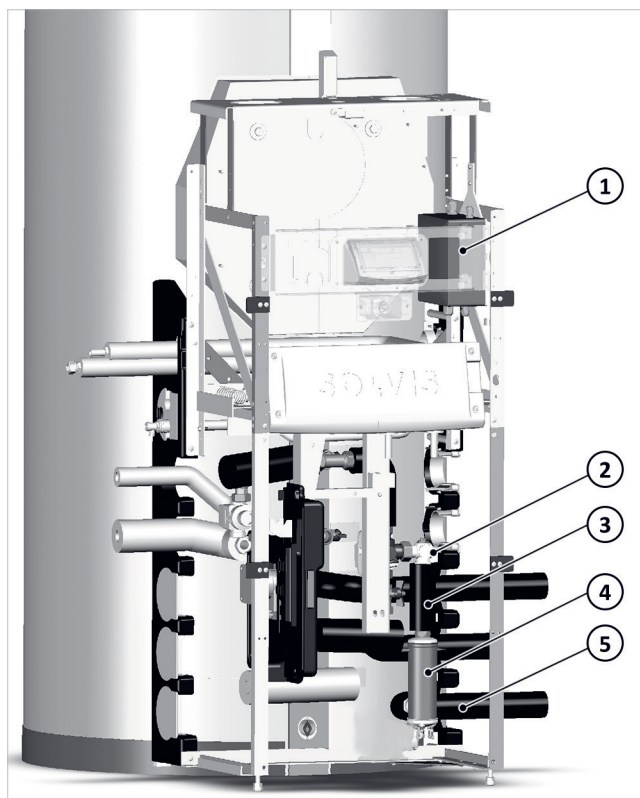

Fig. 9: Position of the components in the charging module
→ *Fig. 9* shows the position of the connection box (1) and heating cartridge (4) in the charging module. The connection pipes for the heating pump and heating flow can be routed through the side pipe lead-through on the right or left.
1. Screw the connection box onto the top of the charging module; see → *fig. 9 (1)*.